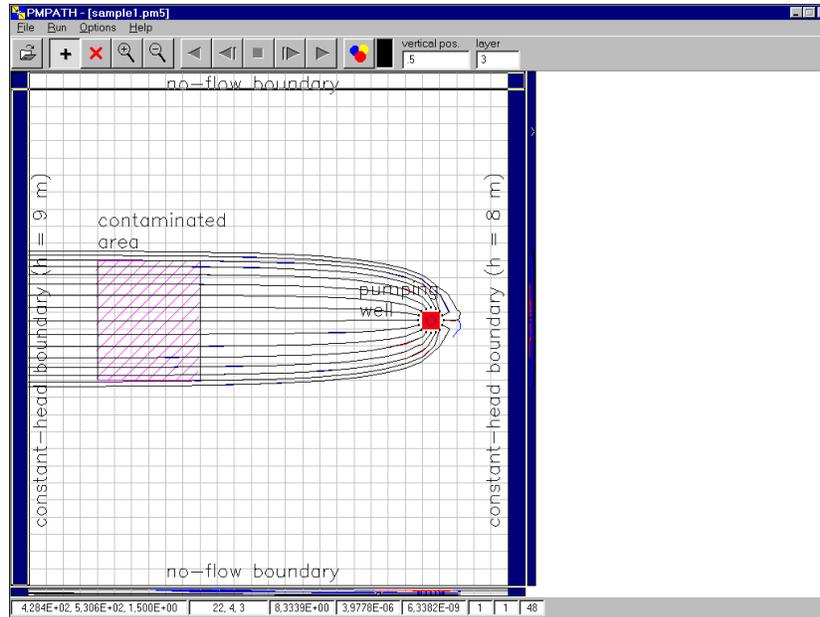

Fig. 1.17 The capture zone of the pumping well (with vertical exaggeration=1)
g. Click  to start the backward particle tracking. PMPATH calculates and shows the projections of the pathlines as well as the capture zone of the pumping well (Fig. 1.17).